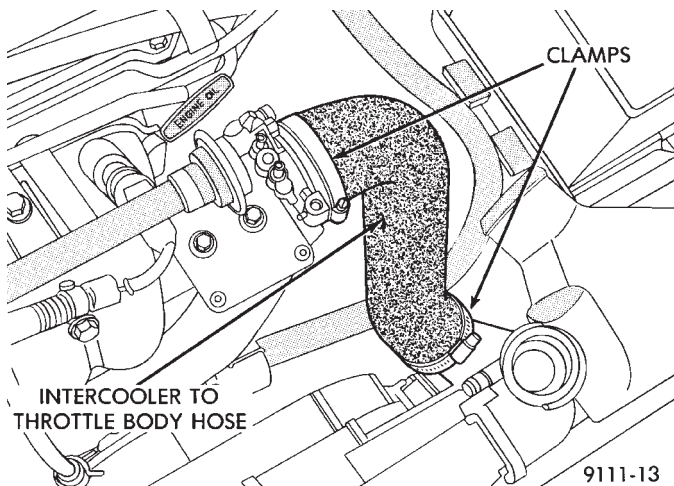

Fig. 5 Intercooler to Throttle Body Hose
- (7) Disconnect Intercooler to throttle body outlet hose. Disconnect vacuum hoses from throttle body and remove harness (Fig. 5).
(6) Connect vacuum hoses to throttle body (Fig. 5).
(7) Install intercooler to throttle body hose and clamp. Torque clamp to 3 N•m (30 in. lbs.) (Fig. 5).